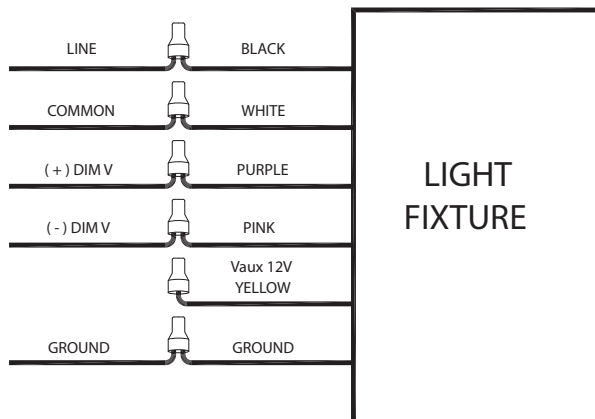

Fig. 13
5. Align **Surface Mount Adapter Plate** to the **Housing Cover**. Using (4) **Screws** (*provided*) secure **Surface Mount Adapter Plate** and **Housing Cover** to the **Surface Mounting Plate**.
6. Follow appropriate wiring instructions per code (Fig. 13).
9. Follow appropriate wiring instructions per NEC and local code (Fig. 13).
2. Connect wires per NEC and local code as shown in wiring diagram (Fig. 13). Push all wires back into the **Junction Box**. Be careful not to pinch wires. Mount the **Cross Bar** on Junction Box.
Universal voltage driver permits operation at 120V through 277V, 50 or 60 Hz. For 0-10V dimming, follow the wiring directions as shown in Fig. 13.